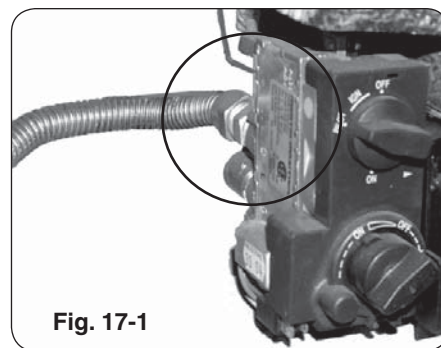

Fig. 17-1
3. Attach the large adapter fitting of the flex connector kit to the fireplace gas-supply line using pipe compound resistant to propane gas, or Teflon tape. Tighten the connection. Connect one end of the flex connector to the large adapter, and the other end to the adapter on valve assembly (see Fig. 17-1).